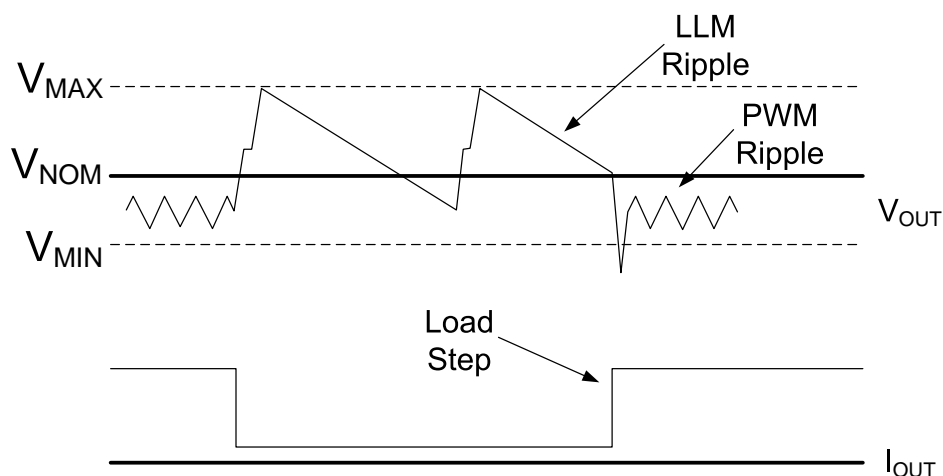

Figure 5. VOUT behavior in LLM operation
- (1) Step  $V_{OUT}$  up by approximately 1.0% above the nominal operating output voltage setting,  $V_{NOM}$  and as low as -0.5% below  $V_{NOM}$ , and then
- (2) Shut down unnecessary circuitry, and then
- (3) Monitor  $V_{OUT}$ .
When  $V_{OUT}$  falls below  $V_{NOM}$ , the device will repeat (1), (2), and (3). The voltage step up, or pre-positioning, improves transient droop when a load transient causes a transition from LLM mode to PWM mode. If a load transient occurs, causing  $V_{OUT}$  to fall below the threshold  $V_{MIN}$ , the device will exit LLM operation and begin normal PWM operation. Figure 5 demonstrates  $V_{OUT}$  behavior during transition into and out of LLM operation. Many multi-mode DC-DC converters suffer from a condition that occurs when the load current increases only slowly so that there is no load transient driving  $V_{OUT}$  below the  $V_{MIN}$  threshold. In this condition, the device would never exit LLM operation. This could adversely affect efficiency and cause unwanted ripple. To prevent this from occurring, the EN6347QA periodically exits LLM mode into PWM mode and measures the load current. If the load current is above the LLM threshold current, the device will remain in PWM mode. If the load current is below the LLM threshold, the device will re-enter LLM operation. There may be a small overshoot or undershoot in  $V_{OUT}$  when the device exits and re-enters LLM.